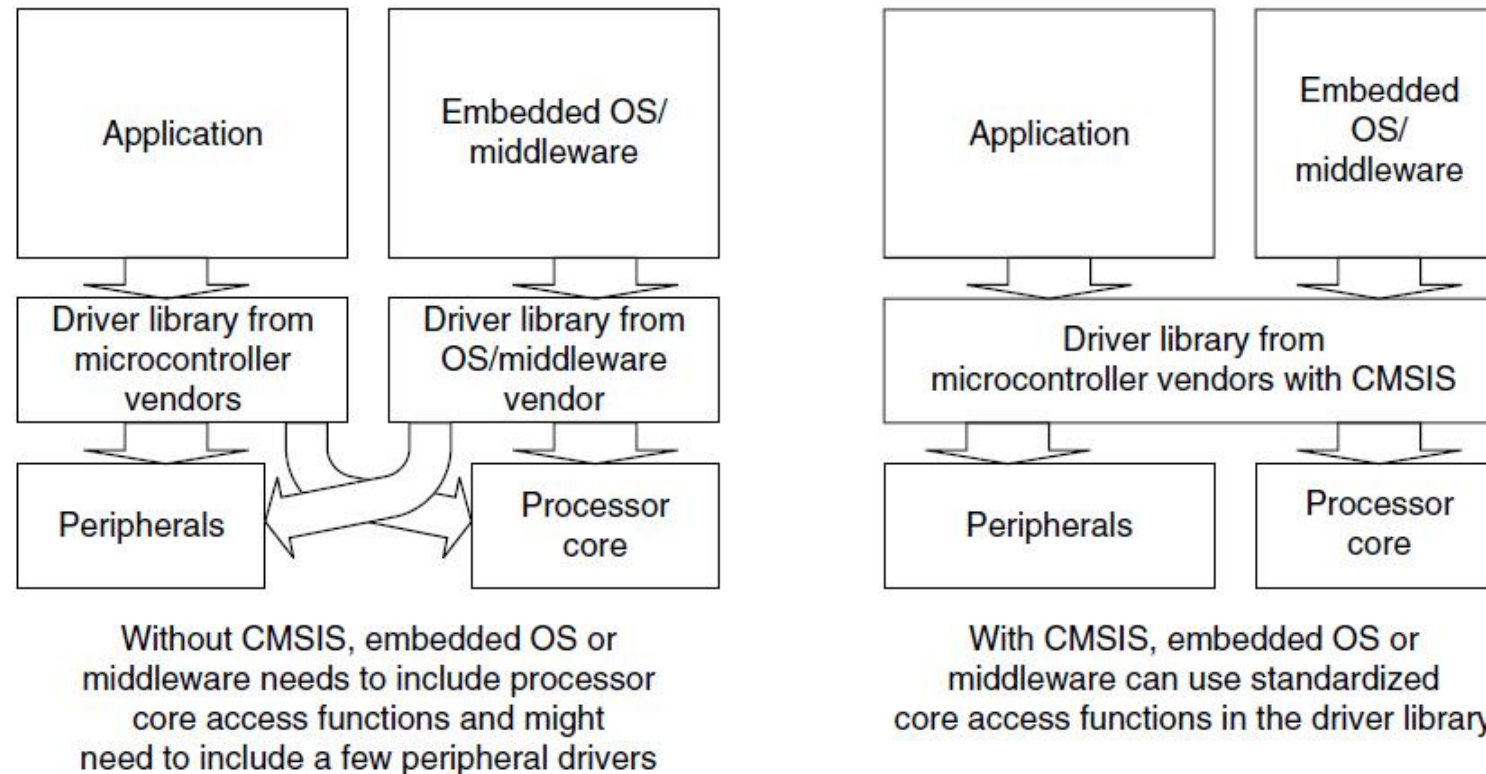

FIGURE 10.10
- For embedded OS vendors and middleware providers, by using the CMSIS, their software products can become compatible with device drivers from multiple microcontroller vendors, including future microcontroller products that are yet to be released (see Figure 10.10).